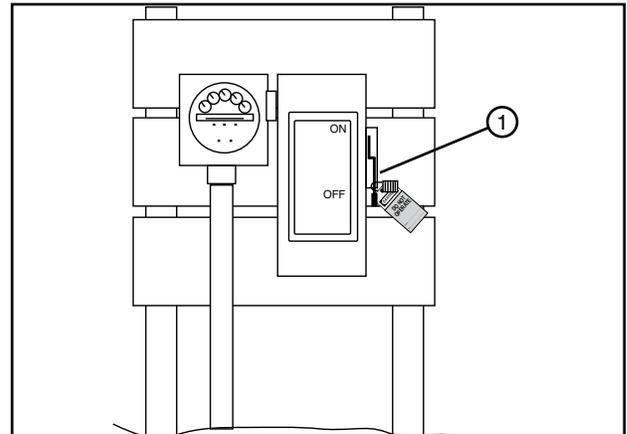

Figure 39-1 1. Public Power Service Disconnect
1. SHUT OFF and LOCK the public power service disconnect to the irrigation machine. See figure 39-1.
FILL OUT the blue (OSHA safety color code) tag and attach to the disconnect after locking. See figure 39-1.